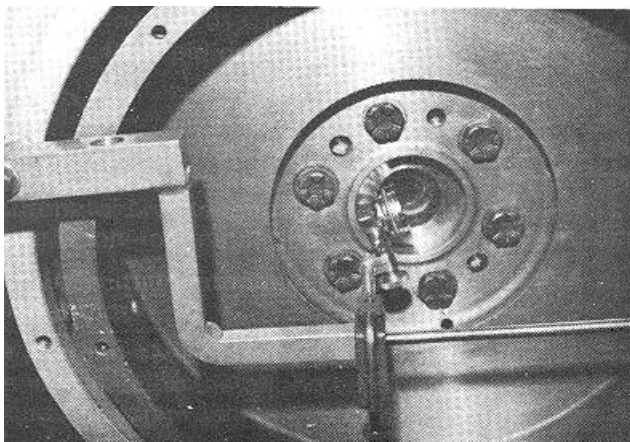

Fig. 14-60 (N114138). Check The Location Of The Bearing Bore.
- a. Install the ST-1325 attachment and 3376050 gauge onto the flywheel housing. Put the trip of the indicator in the position shown in Fig. 14-60.